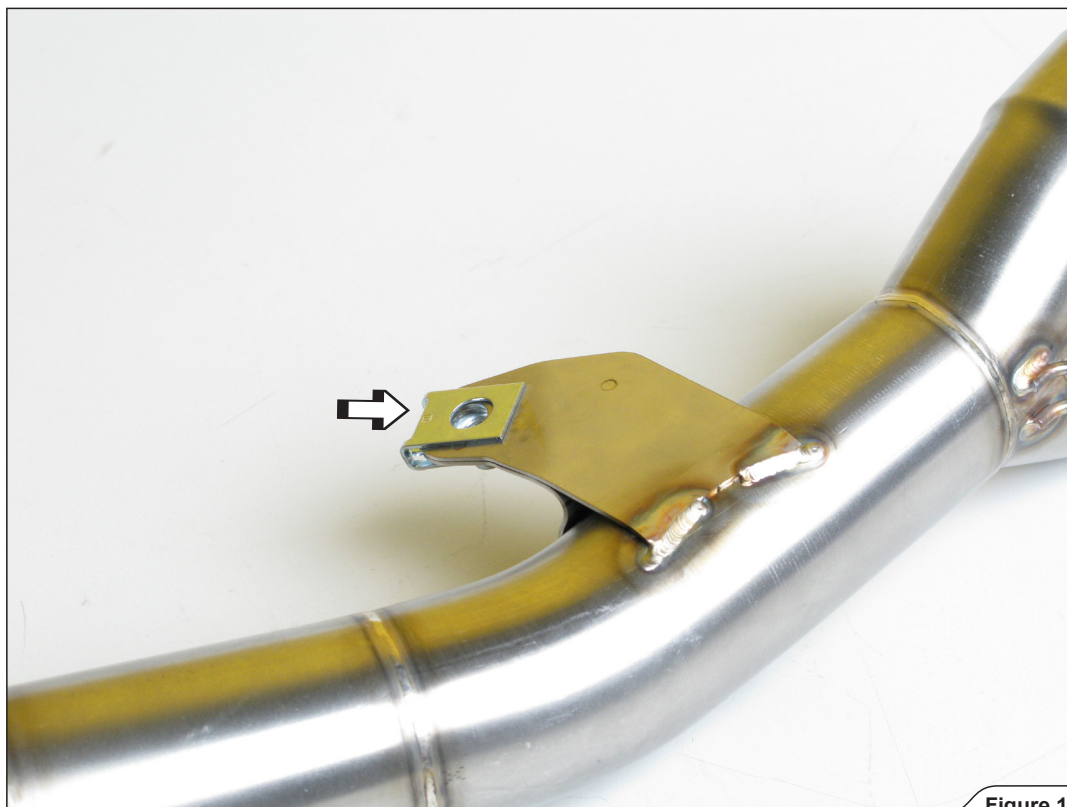

Figure 13
5. **For Akrapovič Racing only:** attach the Akrapovič press-on nut onto the link pipe bracket as shown (Figure 13).